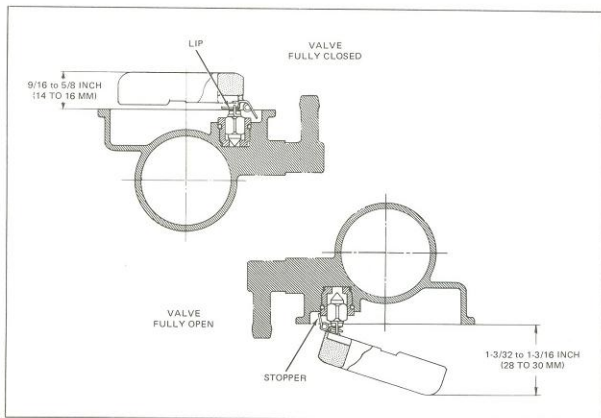

Figure 3-78. Carburetor Float Setting
Mount the carburetor on the motorcycle as follows. Check O-ring (20), Figure 3-78, on the mounting flange to see that it is okay and in its groove. Position carburetor on two engine mounting studs and secure with nuts and washers.